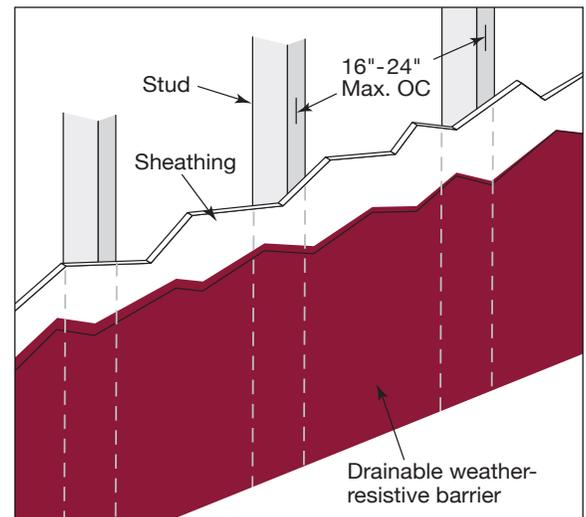

Fig. 16
- Always install drainable weather-resistive barrier according to local building code requirements (**Fig. 16**)